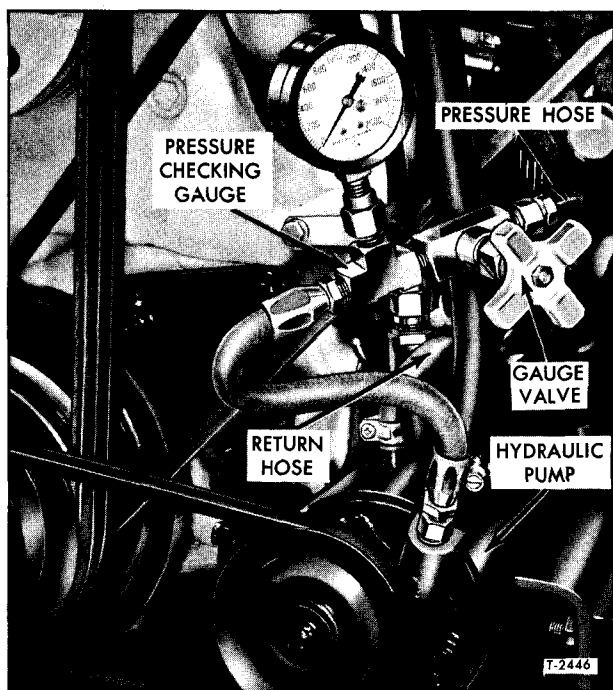

Figure 4—Checking Pump Hydraulic Pressure (Slipper Type Pump) (Typical)
1. Disconnect hydraulic pump to steering gear pressure line at pump. Connect a 0 to 2000 psi pressure gauge (J-22181) to the pump outlet; then connect a shut-off valve between the pressure gauge and pressure line (fig. 4). Make sure all connections are tight and that shut-off valve is fully open.